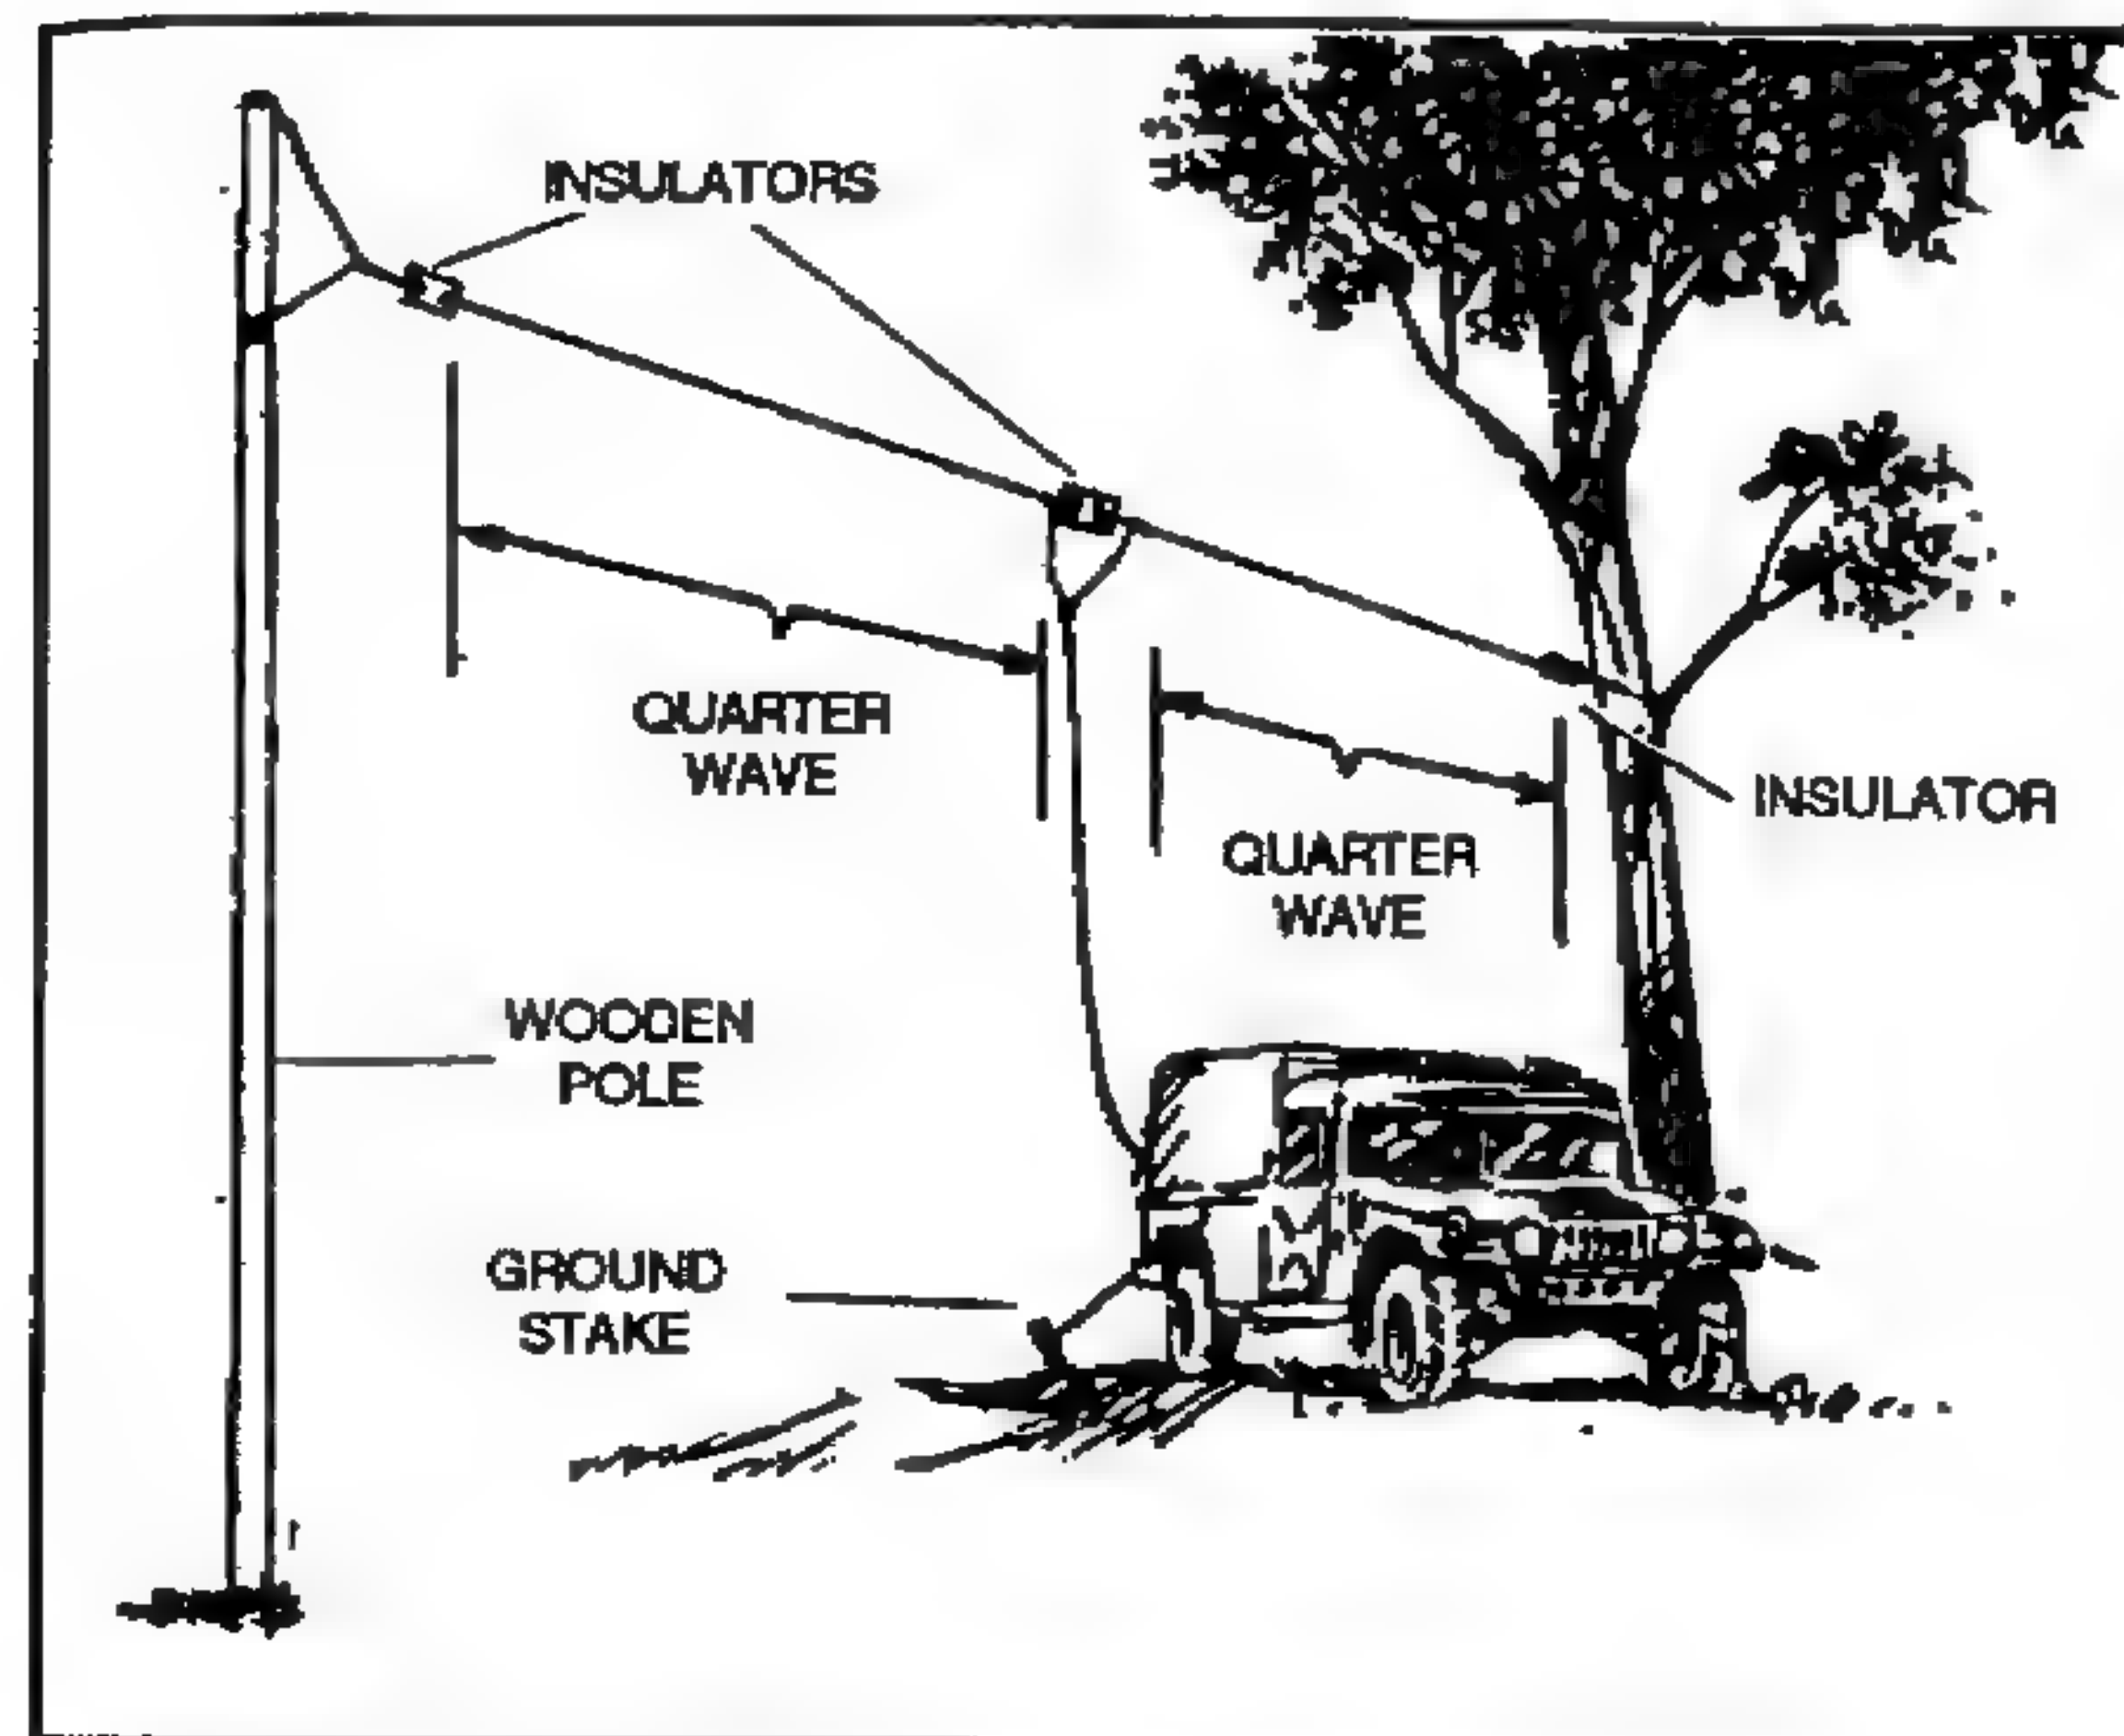

Figure 7-6. Center-fed half-wave doublet antenna.
b. Center-Fed Doublet Antenna. The center-fed doublet is a half-wave antenna consisting of two quarter wavelength sections on each side of the center (Figure 7-6). Doublet antennas are directional broadside to their length, which makes the vertical doublet antenna omnidirectional. This is because the radiation pattern is doughnut-shaped and bidirectional.